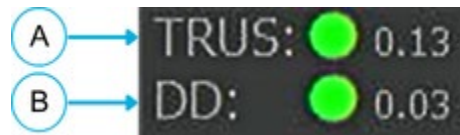

Figure 8-10: NGS Sensor Status Indicators
The NGS Sensor Status display provides real-time feedback on the tracking quality of key system components, including the Transrectal Ultrasound (TRUS) Probe, Delivery Device (DD), and Field Generator (FG). These components are labeled in the interface as shown in **Figure 8-10** and described in **Table 42**.
Colored status circles next to each component name indicate the current tracking quality (see **Figure 8-10** and **Table 43**):